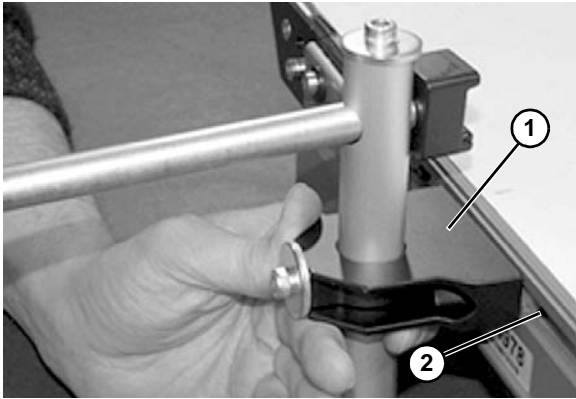

**Figure 28**
2. Tighten screw (Figure 28, item 1) making sure t-bar (Figure 28, item 2) rotates and engages inside of t-slot.